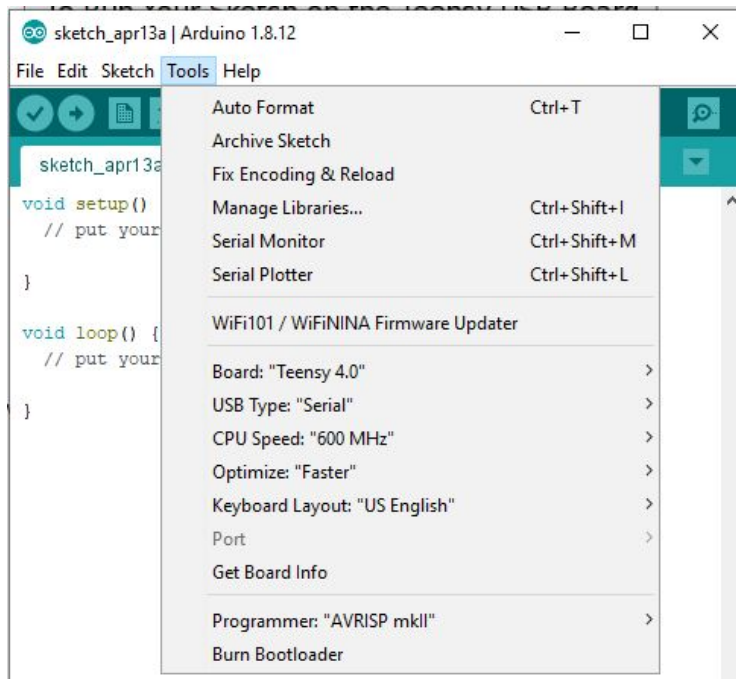

Fig. 6. Tools tab of the Arduino IDE.
2. Left click the “Tools” tab in the top left corner (Fig. 6):